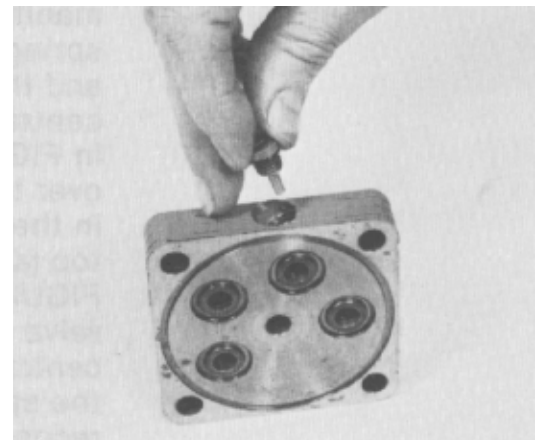

Figure 123
41. Install a new o-ring on the plug. Insert the check ball hole in the port cover. Be sure the ball is seated in the bottom of the check ball hole. Turn the plug assembly into the port cover until the ball is retained (Fig. 123).